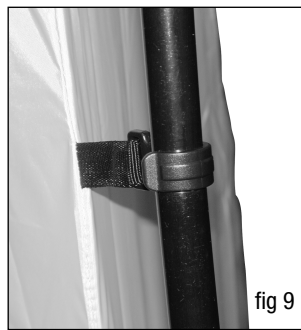

fig 9
5. Attach all clips to the wall poles. See fig 9.